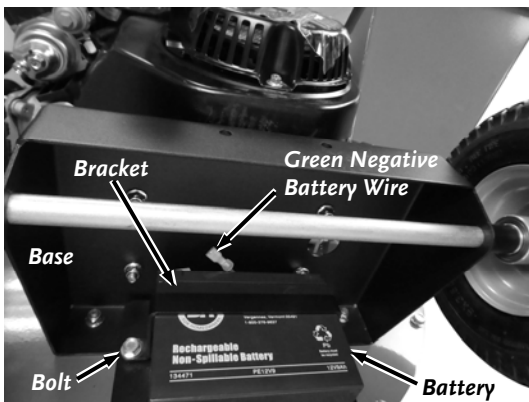

Figure 16
2. Remove the Bolts securing the Battery Strap using a 1/2" Wrench and carefully lower the Battery (**Figure 16**).